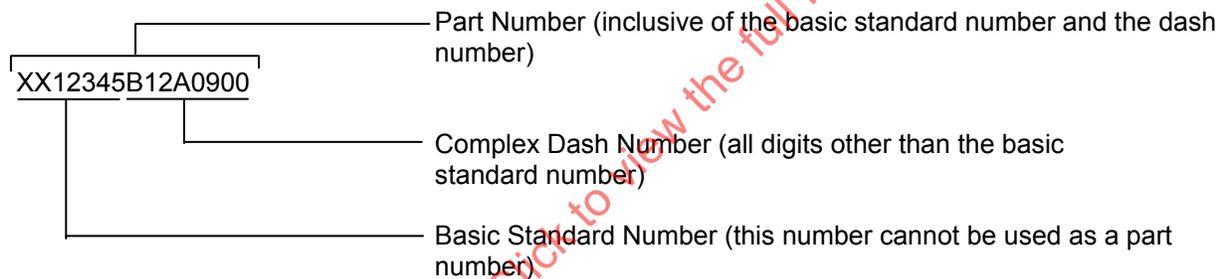

FIGURE 1A - EXAMPLE OF A COMPLEX PART NUMBER
3.5 Example of a Complex Part Number (see Figure 1A)